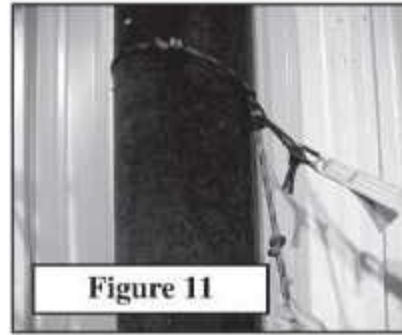

Figure 11
5. Slide adjustable prussic hitch up the safety rope to a comfortable hunting position. See **Figure 10**. Tie an overhand knot in the safety rope approximately one foot under the prussic hitch as shown in **Figure 11**. This will help maintain your position on the safety rope in the event of a fall.